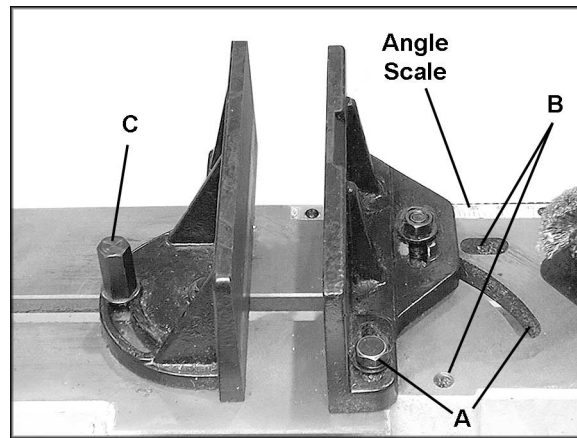

Figure 10
There are two sets of holes in the bed to mount the right jaw. The inner hole and slot (A, Figure 10) are used for miter cuts. The outer hole and slot (B, Figure 10) are used for square, or 90° cuts. Figure 10 shows the vise located in the “A” position for miter cuts.
1. To set up for square cutting, move the right jaw to “B” position (Figure 10). Place a machinist’s square on the bed against the blade and the right vise jaw. The square should lie along the entire length of the jaw and blade without a gap.
4. Loosen the handle (C, Figure 10) on the left jaw. Move the left jaw until it contacts flush with the right jaw.
5. Tighten the handle (C, Figure 10). The vise is now set for square cuts.
1. For miter cuts, move the fixed jaw to the inner holes, or "A" position, as shown in Figure 10.
3. Adjust the movable jaw in the manner described above, and tighten the handle (C, Figure 10).